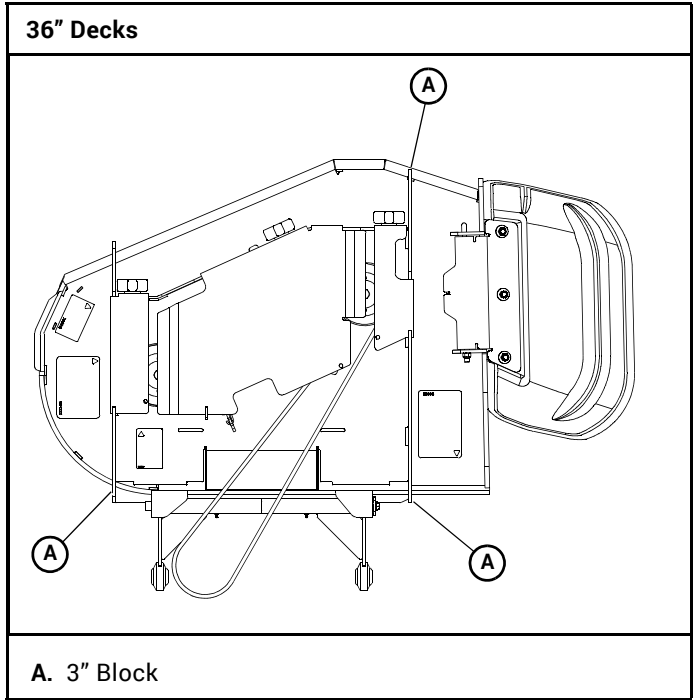
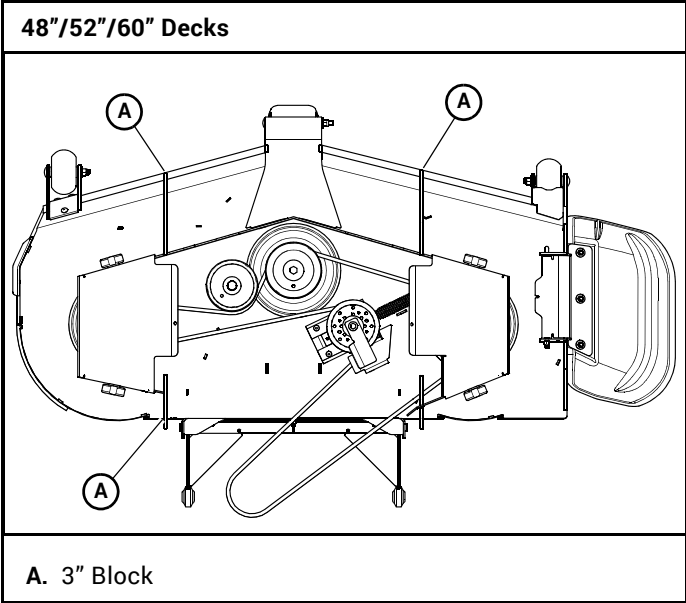

Figure 6-1
Figure 6-2
2. Park the unit on a hard flat surface. Place 3" blocks under the points shown in Figure 6-1 or Figure 6-2.